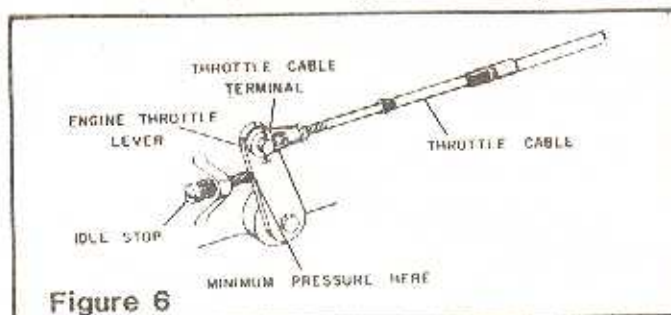

Figure 6
1. Operate the control hand lever several times. The engine clutch lever and the control clutch arm (14) MUST coincide at forward, neutral and reverse detent positions.
3. Operate the control hand lever through the complete operating range. The carburetor throttle lever should rest lightly against its idle stop when the control hand lever is at neutral. At neutral detent, pull out hand lever hub and move thru forward range. Return to neutral and hand lever should snap back in place. Excessive pressure of the carburetor throttle lever against its idle stop will prevent the control hand lever from moving freely in and out at the neutral detent. To remedy this, adjust the engine throttle cable terminal so the control cable will move the engine throttle lever against its idle stop with minimum pressure. (See Figure 6).